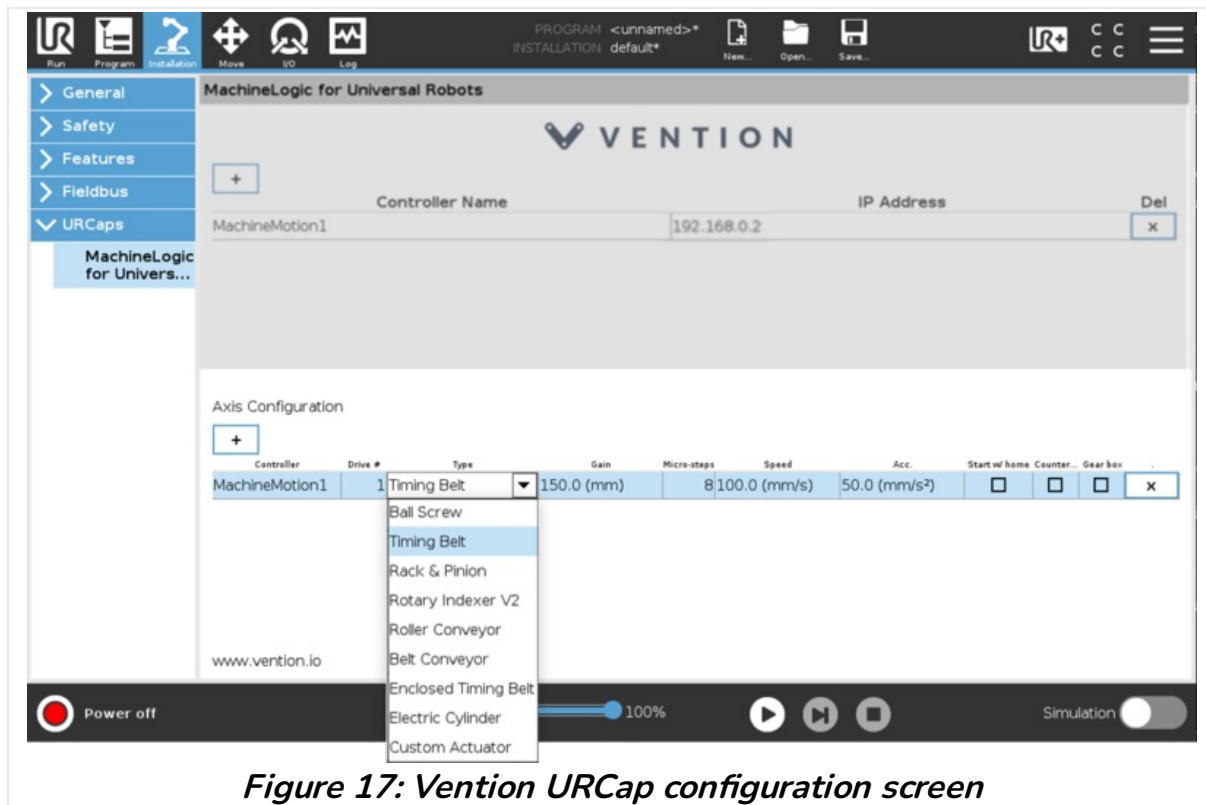

Figure 17: Vention URCap configuration screen
The lower window of the Vention URCap defines actuators for linear axes of motion (see Figure 17). For example, the system shown in Figure 17 has two actuators linked to the controller, which is called **MachineMotion1**. These actuators are plugged into drive connectors one, and three of the controller, hence the (1), (3) appearing under the **Drive #** setting.